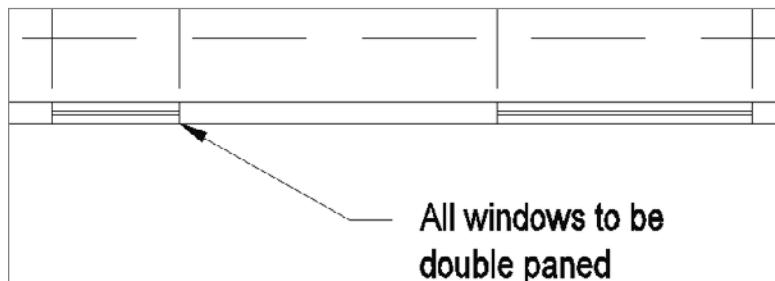

FIGURE 12.50 The multileader pointing to the first window
7. Add a leader that starts at the right edge of the 3" (915 mm) window and then extends below and to the right. Enter All windows to be double paned at the text prompt, adjust the width of the text, and then click a blank spot in the drawing area (see Figure 12.50).